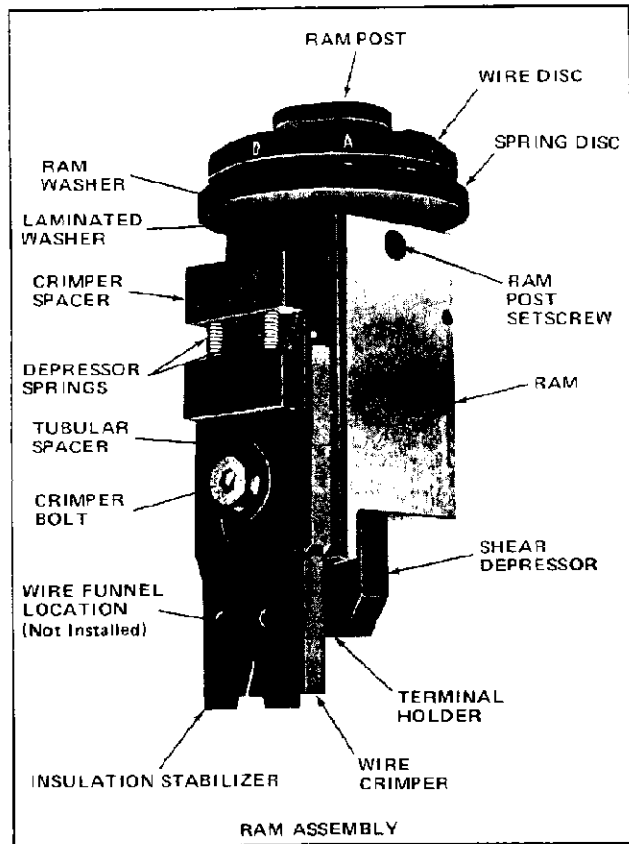

Figure 3.
The applicator ram (see Figure 3) supports the upper tooling which is the wire crimper, insulation stabilizer, terminal holder, and shear depressor. The wire crimper and insulation stabilizer, with crimper spacer between are attached to the ram by the crimper bolt and tubular spacer. The insulation stabilizer is free-floating and is spring-loaded downward. This allows upward movement as it contacts the terminal insulation on the downward stroke of the ram, thus holding the terminal in position on the anvil during crimping, and the shearing of the carrier strip. The wire funnel (when used) is attached to the front of the insulation stabilizer. The shear depressor and terminal holder are attached to the back of the ram.
5.1. Crimp Height Adjustment (See Figure 3)
7.1. Wire Crimper Replacement (See Figure 3)
7.4. Adjustable Crimp Height Repair (See Figure 3)